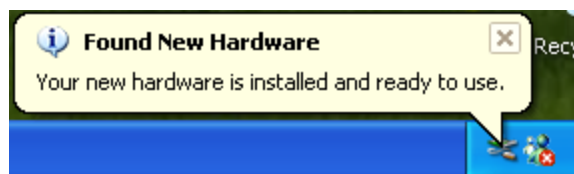

Figure 2-9
3. Connect the SpO₂ probe to PC through SpO₂ probe data cable (refer to figure 2-9). Open the SpO₂ probe and insert the index finger into it.
Note: when connecting the OxiSensor at the first time, the system prompts that “Found New Hardware. Your new hardware is installed and ready to use.” on the lower right, as shown in Figure 2-9, it means that USB Driver is installed successfully.